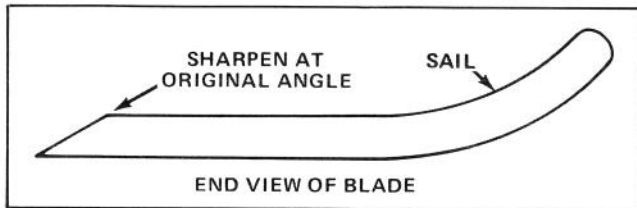

Figure 20
3. Inspect cutting edges of all blades. Sharpen the cutting edges if they are dull or nicked. Sharpen only the top side of the cutting edge and maintain the original cutting angle to make sure of sharpness (Fig. 20). The blade will remain balanced if same amount of metal is removed from both cutting edges.